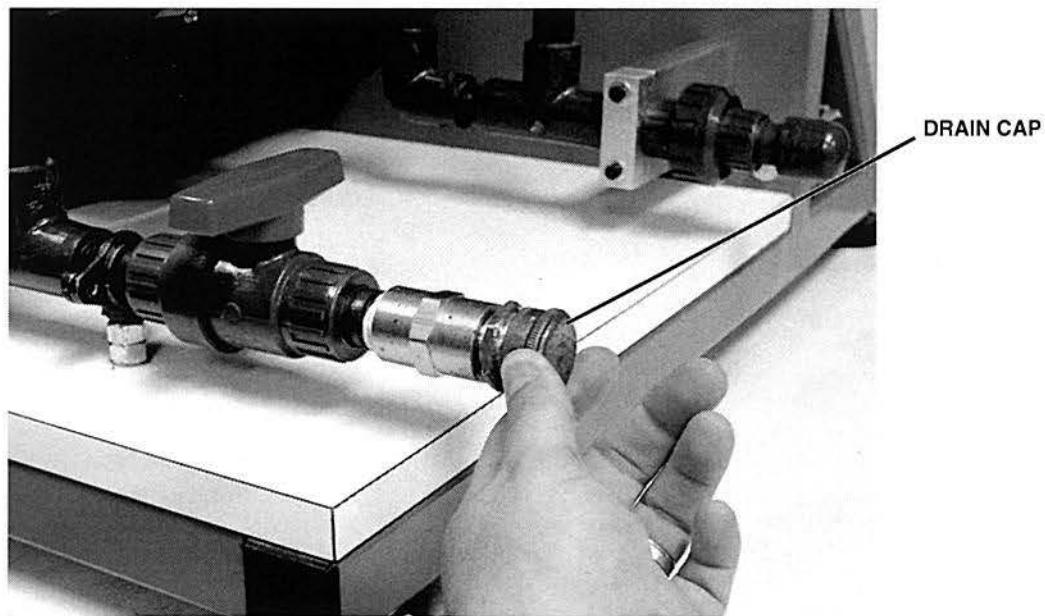

Figure 23. Drain Cap
B. Loosen and remove the drain cap shown in figure 23.